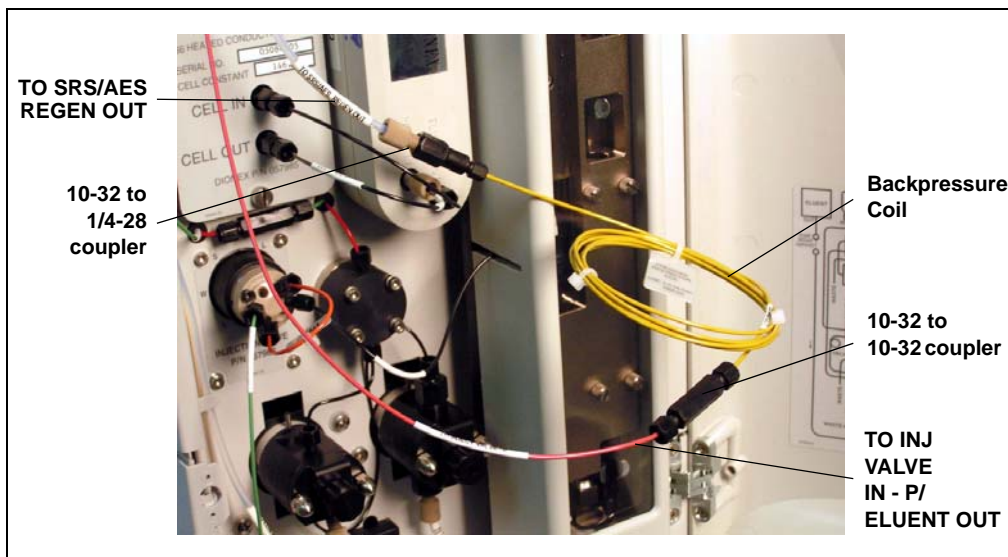

Figure 5-66. Backpressure Coil Connections for Hydrating and Conditioning the EPM with Carbonate Eluent
5. Connect the **TO SRS/AES REGEN OUT** line to the 10-32 to 1/4-28 coupler (see Figure 5-66).
NOTE The backpressure coil connection in Figure 5-66 is temporary; it is used only during the hydration and conditioning procedure described in the next section.